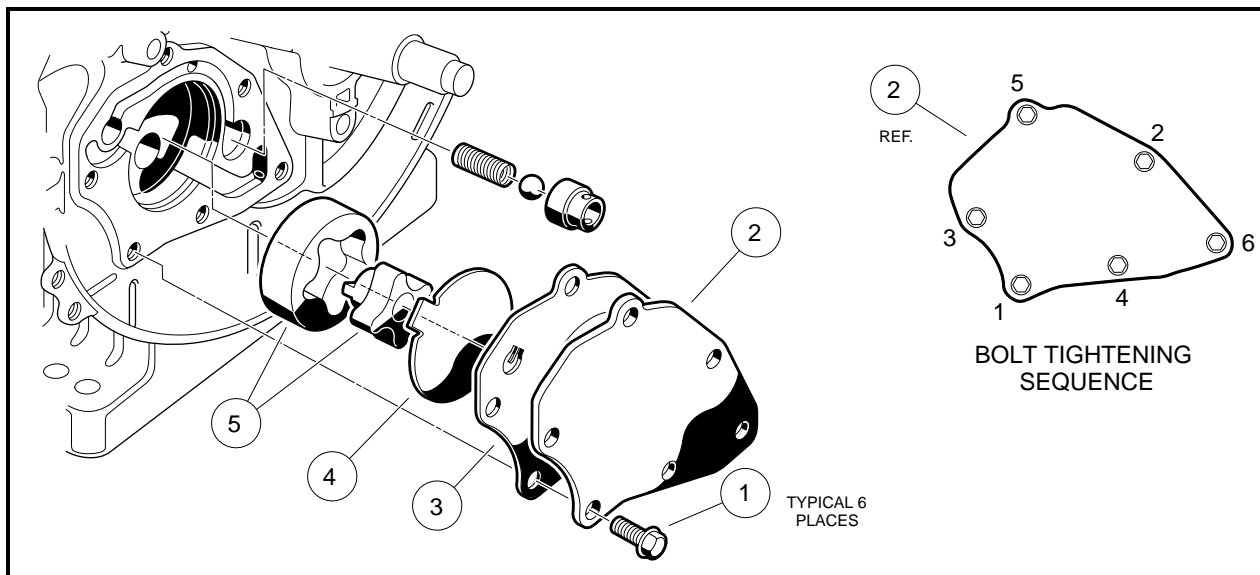

Figure 13-65 Oil Pump
1. Remove the six screws (1) and take off the oil pump cover (2) (**Figure 13-65, Page 13-32**).
2. Peel off the oil pump cover gasket (3).
3. Remove the pump gear cover plate (4) (**Figure 13-65, Page 13-32**).
3. Install six bolts (1) and finger tighten. Then tighten to 7 ft-lb (9.5 N·m) in the sequence shown (**Figure 13-65, Page 13-32**). After tightening bolts, check torque of first bolt.